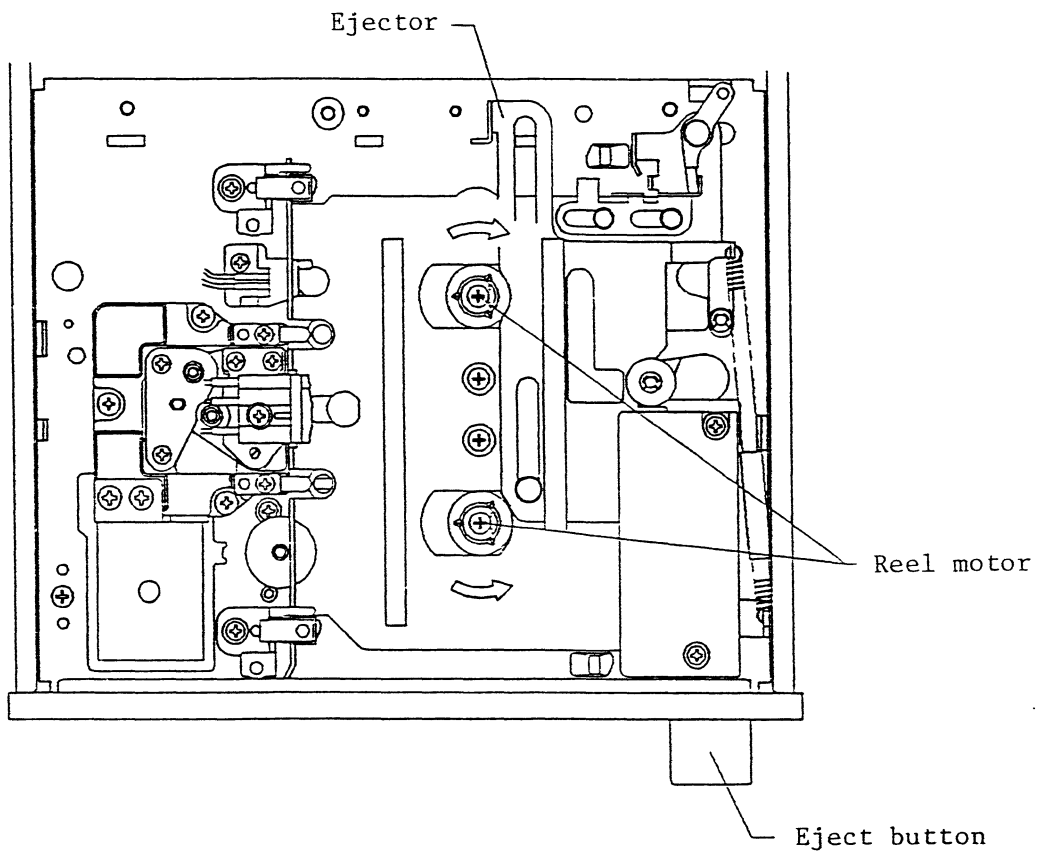

Fig.419 Check of rotary direction of reel motor
- (d) Check if each reel motor is turned in the correct rotary direction (Fig. 419).